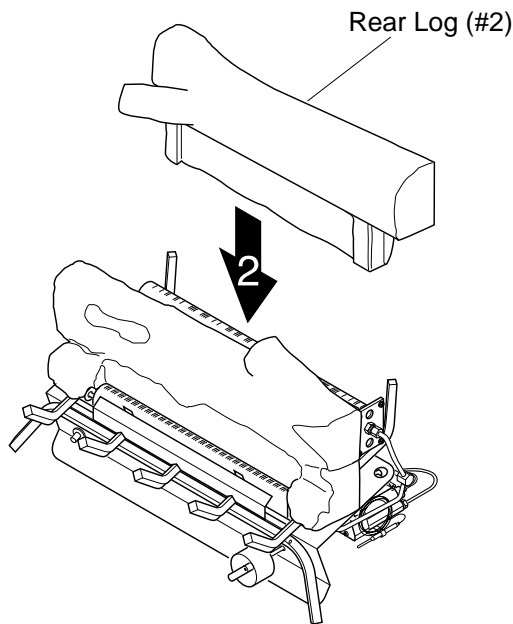

Figure 17 - Installing Rear Log
2. Slide rear log (#2) into place behind rear burner (see Figure 17).